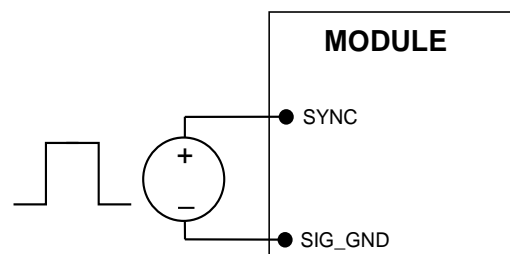

Figure 35. External source connections to synchronize switching frequency of the module.
The module switching frequency is capable of being synchronized to an external signal frequency within a specified range. Synchronization is done by using the external signal applied to the SYNC pin of the module as shown in Fig. 35, with the converter being synchronized by the rising edge of the external signal. The Electrical Specifications table specifies the requirements of the external SYNC signal. If the SYNC pin is not used, the module should free run at the default switching frequency.
1. By allowing the user to select among several pre-tuned compensation choices to select the one most suited to the transient response needs of the load. This selection is made via a resistor  $R_{TUNE}$  connected between the  $RTUNE$  and  $SIG\_GND$  pins as shown in Fig. 35. Table 2 shows various pre-tuned compensation combinations recommended for various external capacitor combinations.